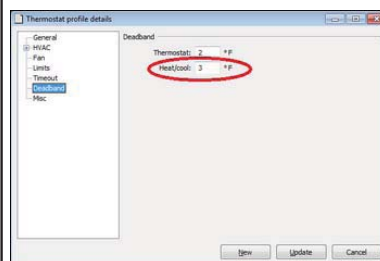

Figure 48
2. If the pipe sensor is an *1k NTC resistor*, a **Trigger level** (in the range 0-100%) for switching between heat and cool should be entered. When the temperature reaches the switch-over-temperature (default 3 °F; this is chosen under the **Deadband** alternative in the **Thermostat profile details** dialog, see Figure 48), it is checked whether the pipe sensor has reached the trigger level so that the thermostat can change mode from heating to cooling or vice versa.